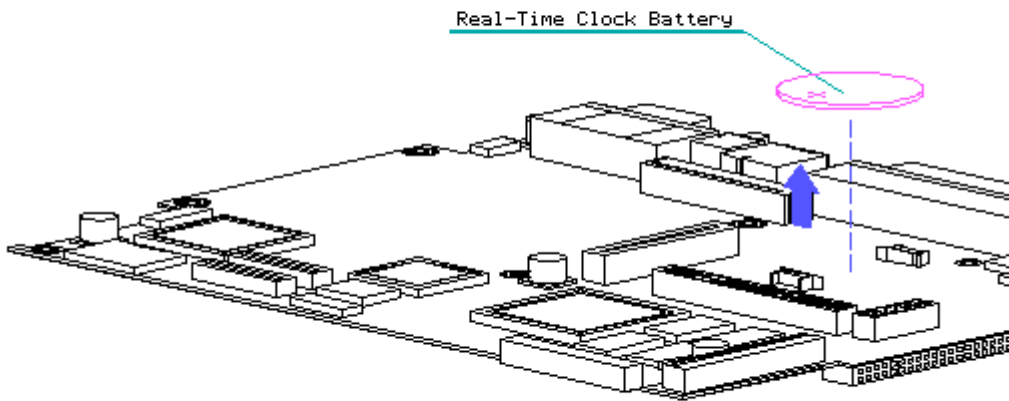

Figure 2-37. Removing the Real-Time Clock Battery
2. Remove the real-time clock battery from the processor board by inserting a nonconductive probe into the battery holder and pushing back on the battery to release it (Figure 2-37).